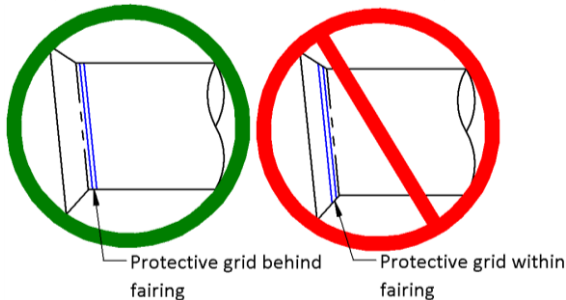

Figure 3 - Recommend location of protective grid
- Mount the grid behind the induction cone/radius (see Figure 3 below).